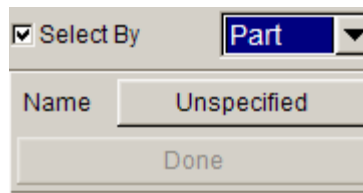

Figure 4.4.4 Select element by Part and/or Range
- If the SELECT BY option is toggled on, two approaches can be used to select elements. The user may select elements by Part and/or Range by clicking on the drop down button as illustrated in Figure 4.4.4.
This function allows the user to select elements by selecting parts, as shown in Figure 4.4.4. If this option is selected, after clicking the UNSPECIFIED button, the program will pop up a Select Part dialog box for the user to select a part. All elements in the selected part will be selected automatically and be highlighted on screen.